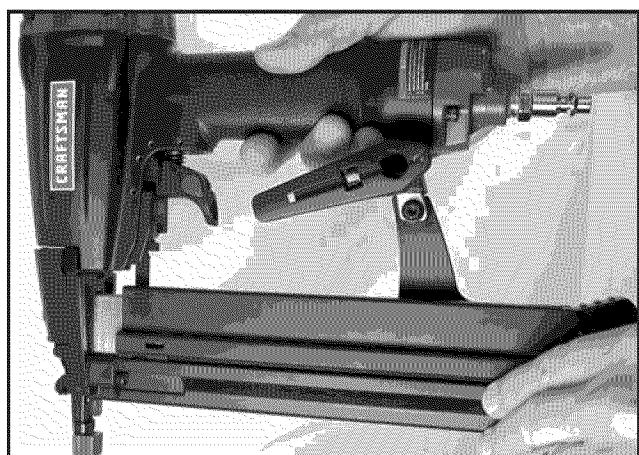

Figure 7—Close Magazine
- Slide magazine cover forward over magazine until latch snaps into place, locking magazine cover. (See Figure 7).